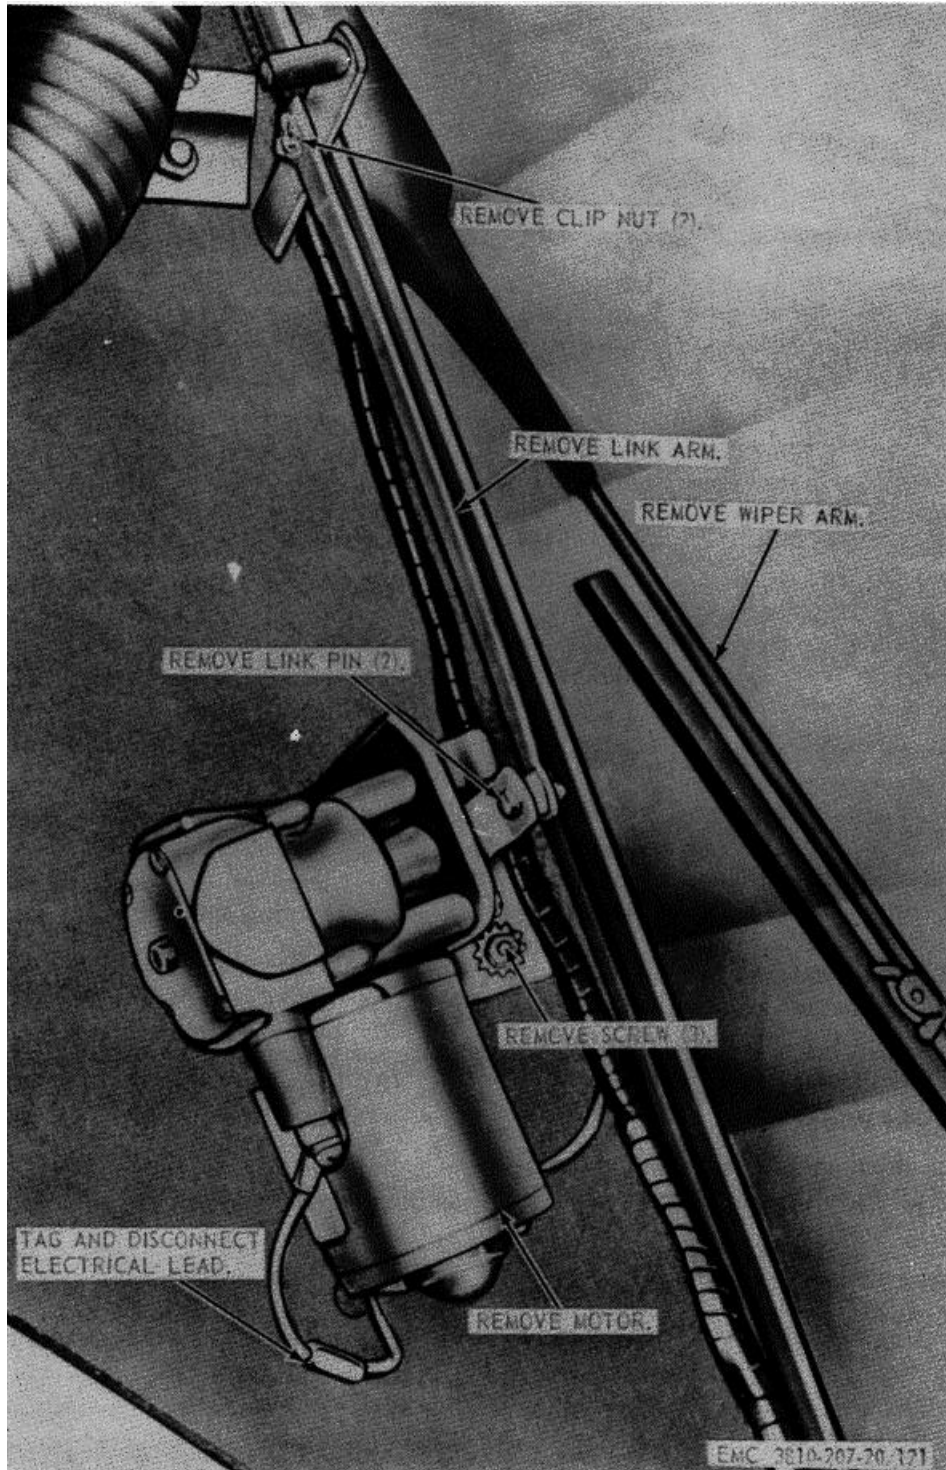

Figure 121. Windshield wiper, removal and installation.
a. Removal. Remove the windshield wiper as instructed on figure 121.
- (1) Clean all parts with an approved cleaning solvent and dry thoroughly.
- (2) Inspect the windshield wiper for breaks, bends, or other damage. Repair or replace damaged hardware.
- (3) Inspect the motor for proper operation. Replace a defective motor.
c. Installation. Install the windshield wiper as illustrated on figure 121.